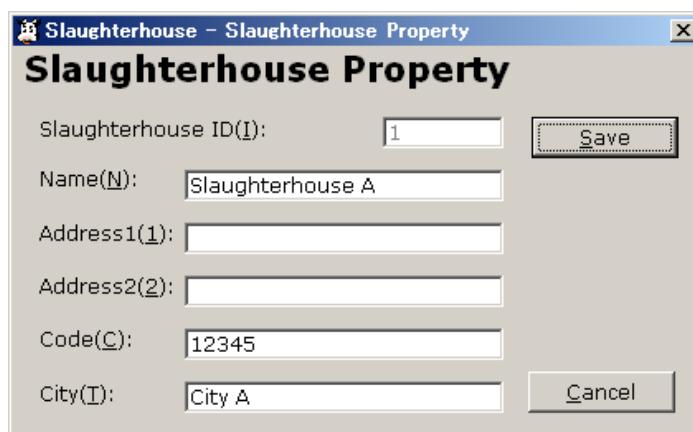

Fig. 11.2.3-1 : Slaughterhouse property
- (3) The 'Slaughterhouse Property' screen comes up (Fig. 11.2.3-1). Information such as : Name of the slaughterhouse, address(1) and address(2), city code and city name can be modified.